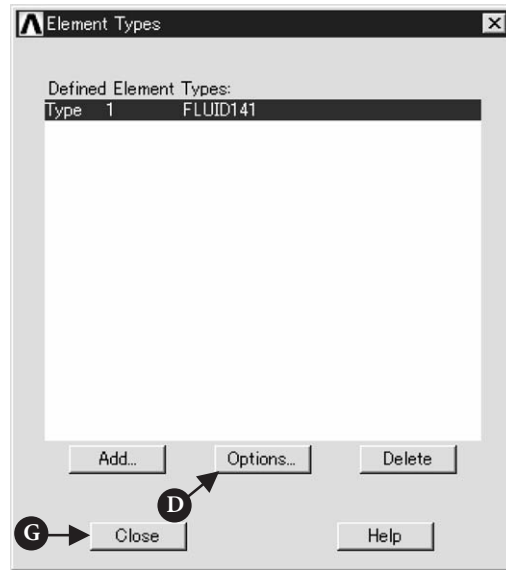
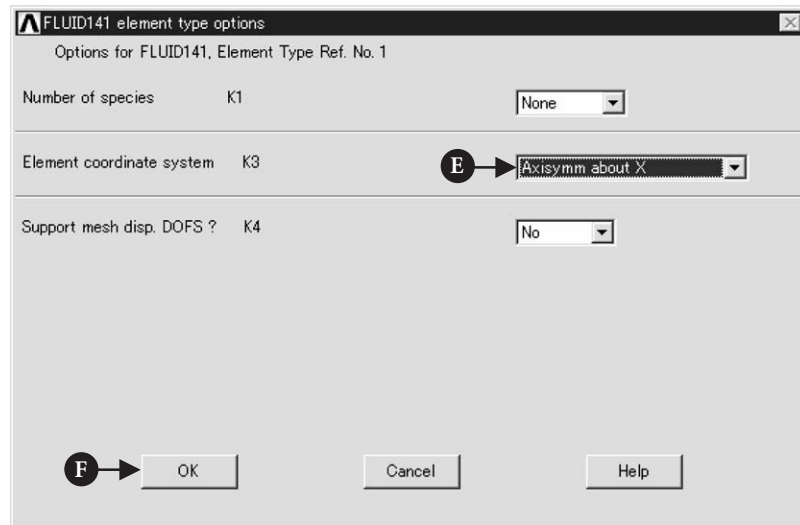

Figure 5.6 Window of **Element Types**.
Figure 5.7 Window of **FLUID141 element type options**.
- (3) Click [C] **OK** button and click [D] **Options** button in the window of Figure 5.6.
- (4) The window **FLUID141 element type options** opens as shown in Figure 5.7. Select [E] **Axisymm about X** in the box of **Element coordinate system** and click [F] **OK** button. Finally click [G] **Close** button in Figure 5.6.